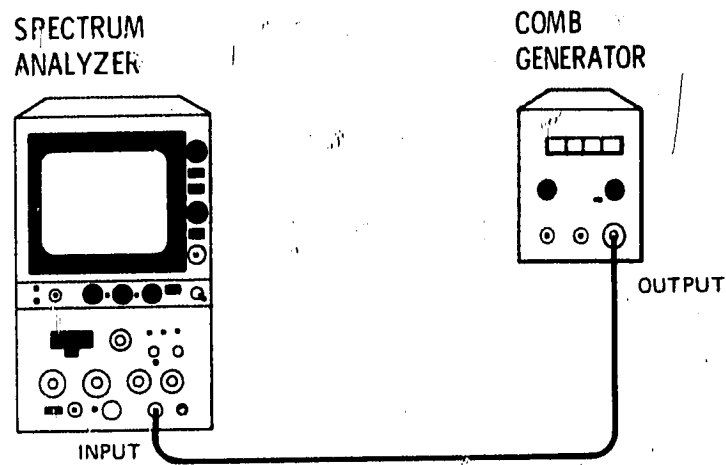

Figure 4-5. Residual FM Test Setup
2. Connect OUTPUT of comb generator to spectrum analyzer INPUT as shown in Figure 4-5.